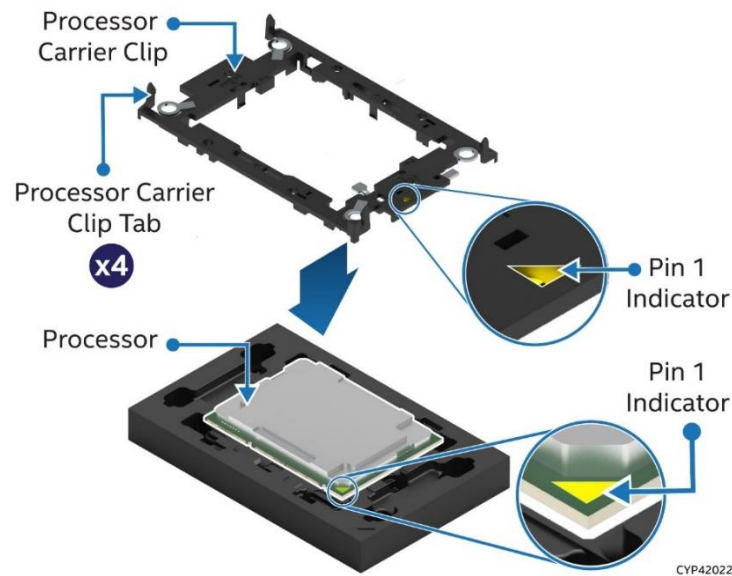

Figure 100. Installing Processor Carrier Clip onto Processor – Part 1
11. Orient and align the processor carrier clip over the processor (see Figure 100).